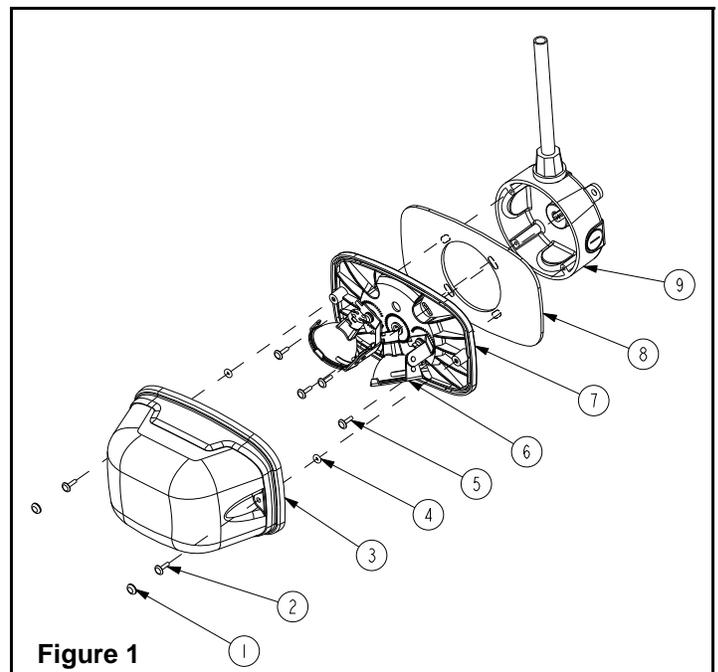

Figure 1
8. Before installing the lens, make sure there is no particles on the gaskets, this can affect sealing. Secure the lens to the back plate with the screws provided. Make sure the o-rings (4) are installed between the lens and the back plate, as shown in figure 1.